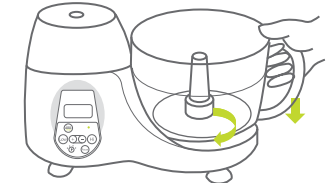

Fig. 9
2. Drop the processing bowl onto the base assembly by rotating the bowl clockwise until you hear a click ensure the all two interlocks on the bowl engage with the base unit. (Fig. 9)